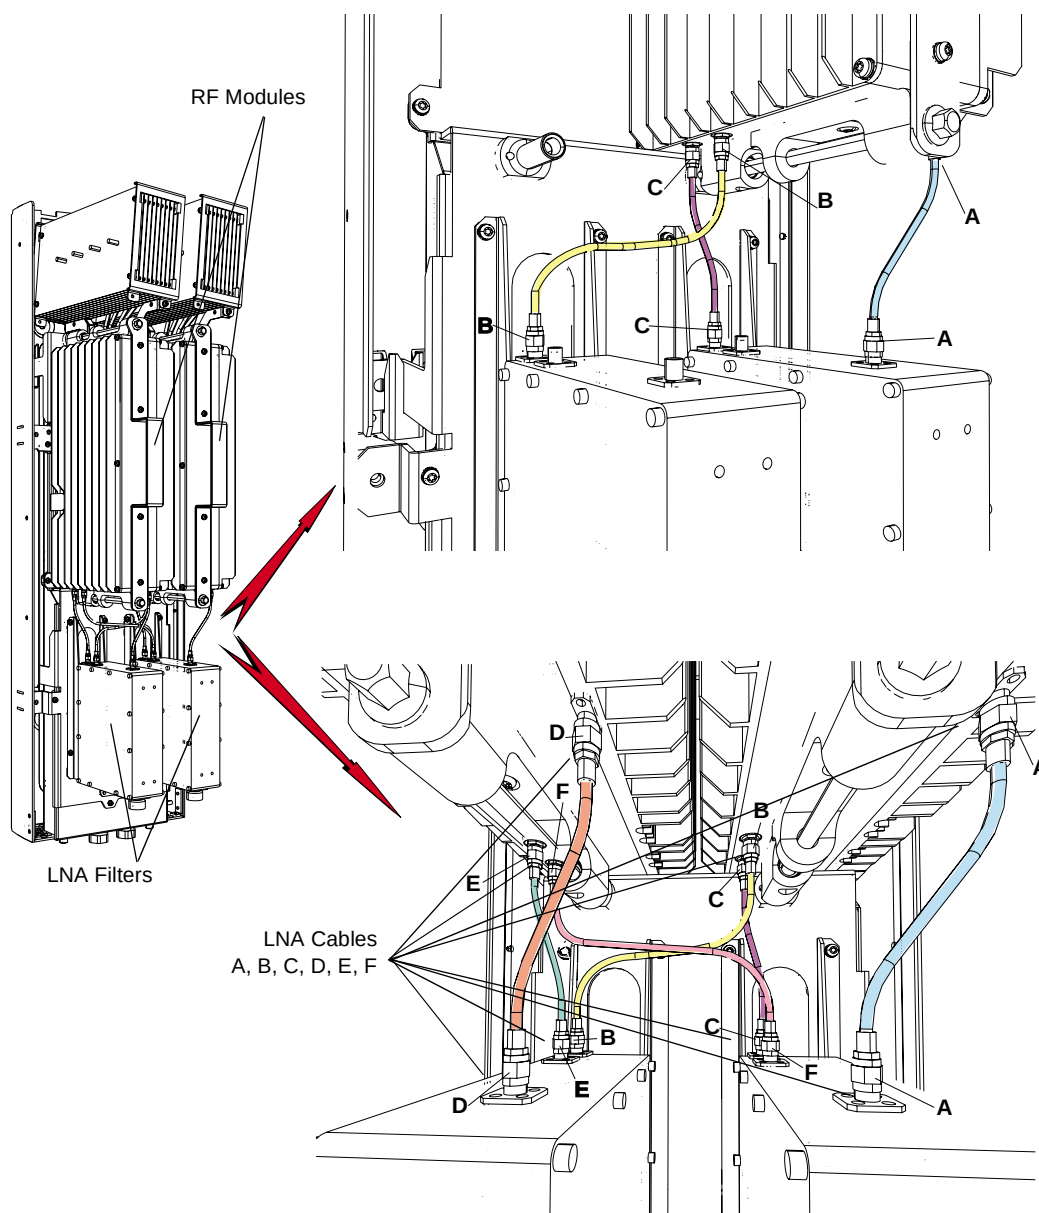

Figure 3–3 LNA Cable Connections
After you install the RF modules, you can connect the RF modules to the LNA filters using the short LNA cables. Figure 3–3 shows the RF module LNA cable connections for a one- and two-RF module installation.
1. For a two RF module installation, connect the LNA cables from the LNA filters to the RF modules as shown in Figure 3–3 on page 3-5.
2. For a single RF module installation, connect the LNA cables from the LNA filters to the RF module, as shown in Figure 3–3 on page 3-5, and cap connections D, E, and F.